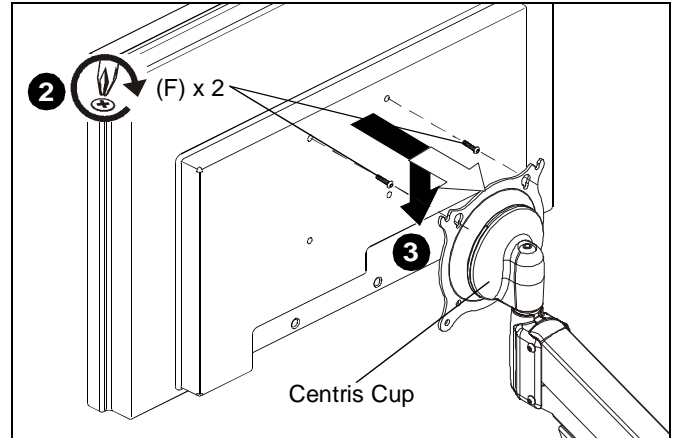

Figure 6
- Carefully install two M4 x 12mm Phillips head cap screws (F) into the *upper* mounting holes on the display. Thread screws completely into display, then back out 3 complete turns. (See Figure 6)
- Align two screws (F) with the two top teardrop mounting holes on the Centris cup and lower Centris cup onto installed screws.